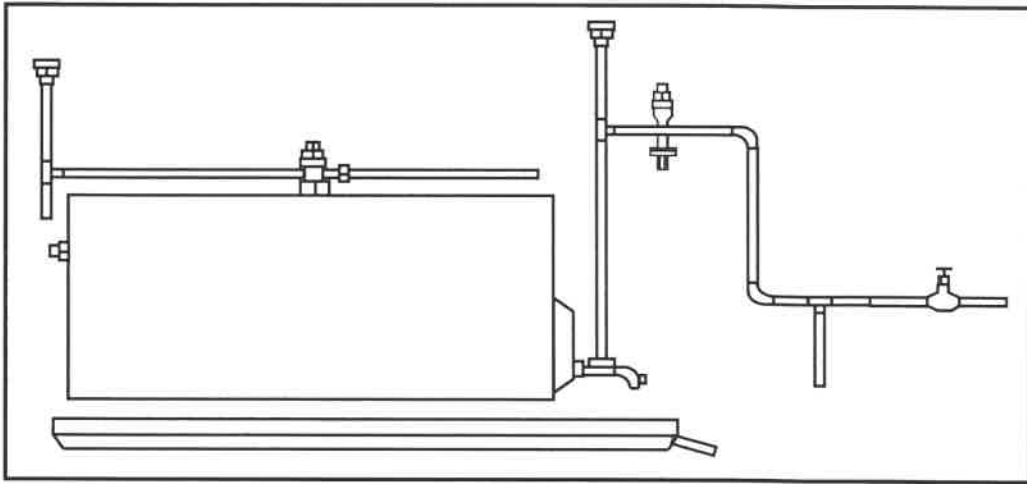

FIGURE 4.8
- 4.8 FIGURE 4.8 below is a drawing of a faulty installation of a high-pressure geyser. Analyse the drawing and answer the questions that follow.